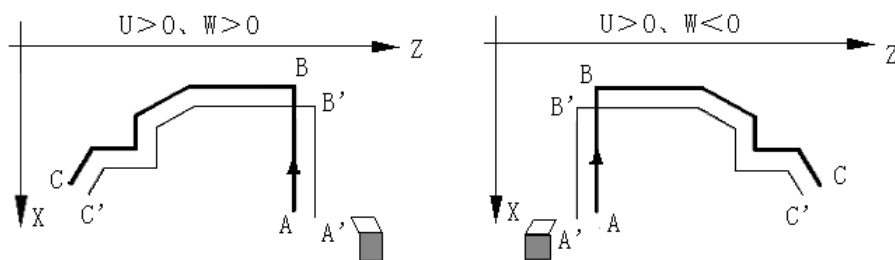

Fig. 4-40
- 1) In the command ①, the coordinate has no the actual motion, the system automatically memorizes the offset value to the internal and is always valid; it is defaulted to 0 when it is not specified.
- 2) The offset value in G71 ① only effects on G71 ②.
- 3) U, W in G71 ① must be specified simultaneously.
- 4) X(U), P, Q in G71 ③ should be the same those of G71 ②; when they are input, they must be the whole. And the field range must the same that ②.
- 5) In G71 ③, the command program rules in P~Q are the same those of G71 ②.
- 6) When the system executes the roughing G71 ②, it automatically memorizes X(U),P,Q data of last G71 and directly refers the data of the internal memory. So, the field following G710 can be omitted when the system executes the finishing to the last roughing G71 path.
- 9) G710 is the same with G71 ②, and their internal can execute the tool nose radius compensation, and its programming rules and format are same those of G71 ②.
- 10) Coordinate offset direction in left roughing allowance: U,W in ① expresses the coordinate offset and cut-in direction in finishing, U, W sign compound is as Fig. 4-40: B→C is finishing path, B'→C' is roughing contour, A is the start-up point.
G72 cycle execution process as Fig. 4-40: